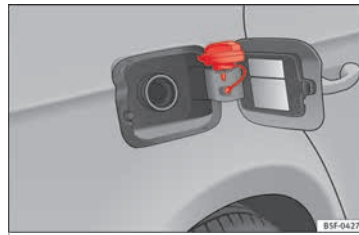

Fig. 59 Fuel tank flap with tank cap attached.
- Place it in the space on the hinge of the open flap » **Fig. 59**.